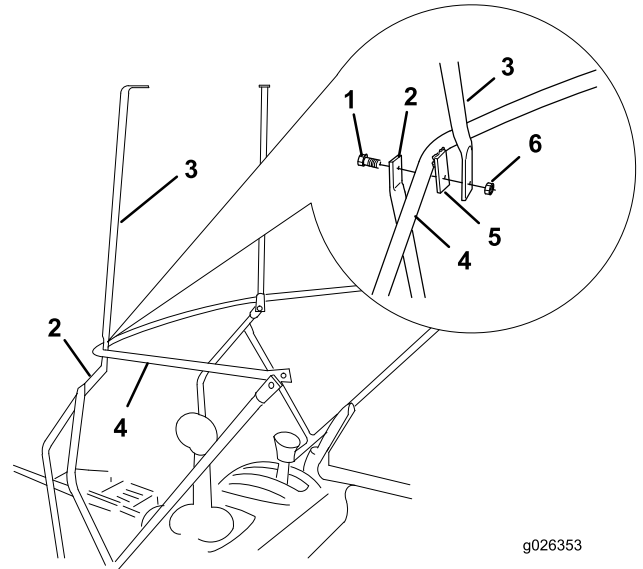

Figure 4
7. Remove a locknut that you just installed on one of the front corners in 6, install the bottom (straight) end of a front post and a locknut onto the bolt, and tighten the locknut until the front post stays upright (Figure 4).